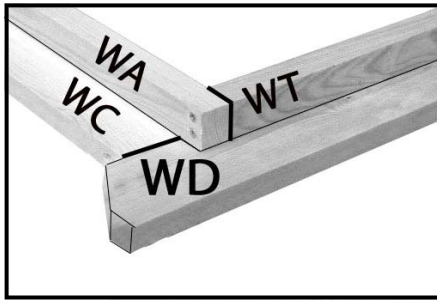

Fig A9
17. Turn frame over and repeat steps 4 to 12 on the other side (fig A9 & A10).